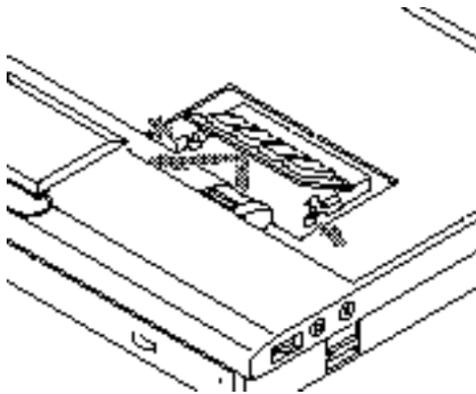

Figure 4-3 Removing the RAM Module
2. Pull clips sideways from each side of the RAM Module. (Figure 4-3).